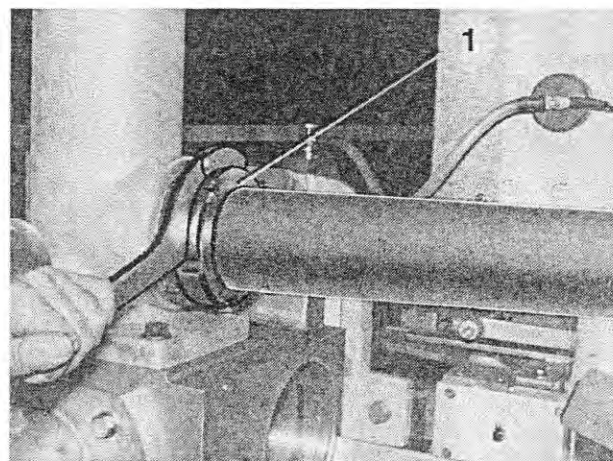

Fig. 219
19. Unscrew the swivel nut (Figure 219/1) of the return line and remove the return line.